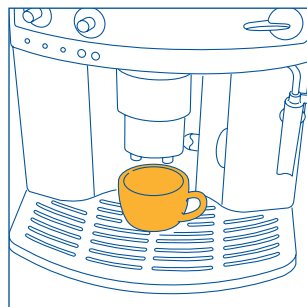
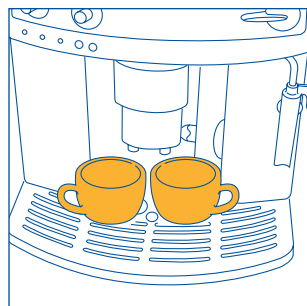
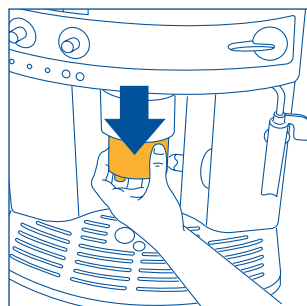

Fig.9
Fig.10
Fig.11
- 4) Place one cup under the coffee spout to make 1 coffee (Fig. 9) or 2 cups for 2 coffees (Fig. 10). For a creamy coffee, lower the coffee spout to bring them as close to the cups as possible (Fig. 11).